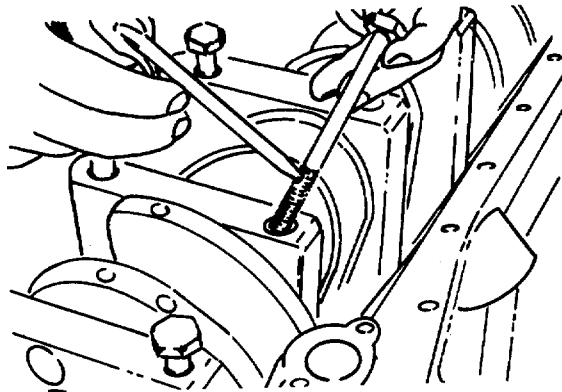

FIGURE 4-74. Lubrication
- g. Lubricate the main bearing capscrew threads and underside of the head with clean engine oil. (FIGURE 4-74)